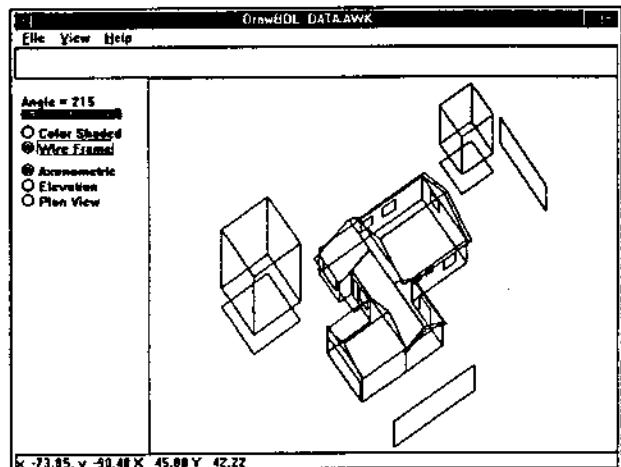

Figure 5
- (2) *Drawing Type*: wire-frame or shaded (Fig. 5).